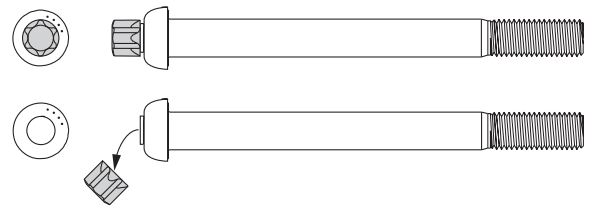

Figure 36: Shear style pivot bolt (Shown before and after shearing)
- Installer did not shear the bolt (Figure 36).